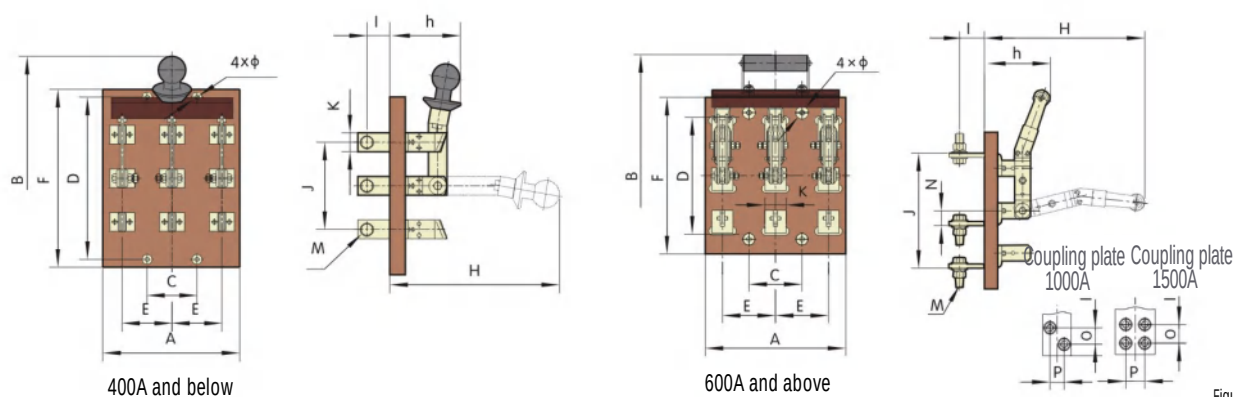

Figure 4
5.4 HS11 board rear wiring (see Figure 4, Table 5).